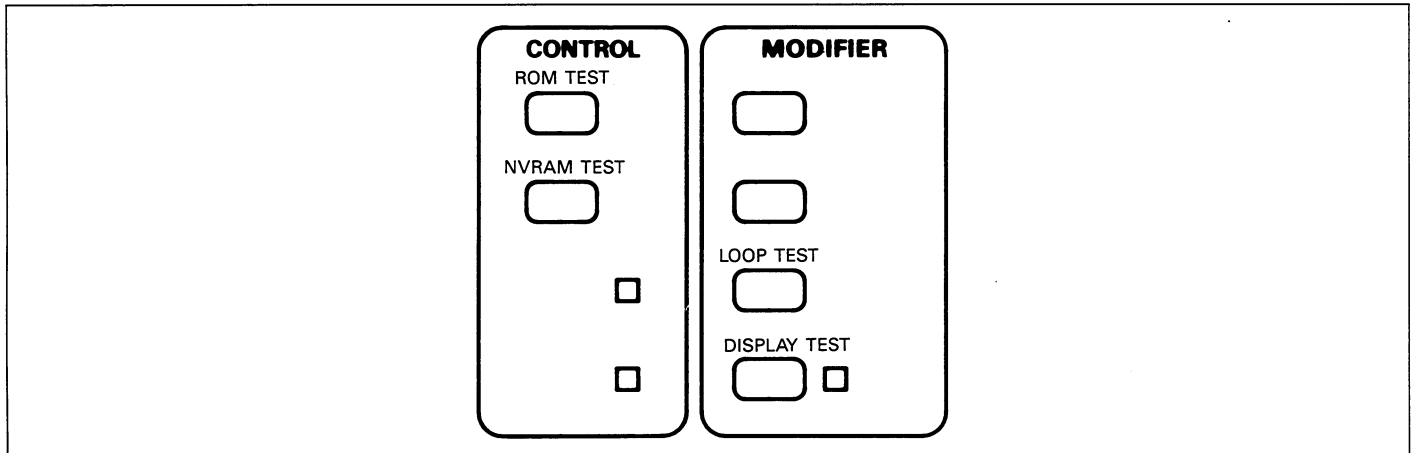

Figure 6-6. Self Test Key Identification
3. Perform any or all of the following tests. The keys used to select the tests are shown in Figure 6-6.